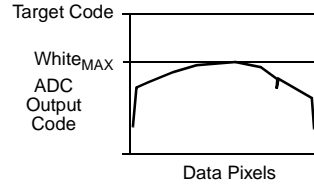

Figure 10: Finding White_{MAX}
- Find the maximum white pixel value of the image data (White_{MAX}) for each color (Figure 10).